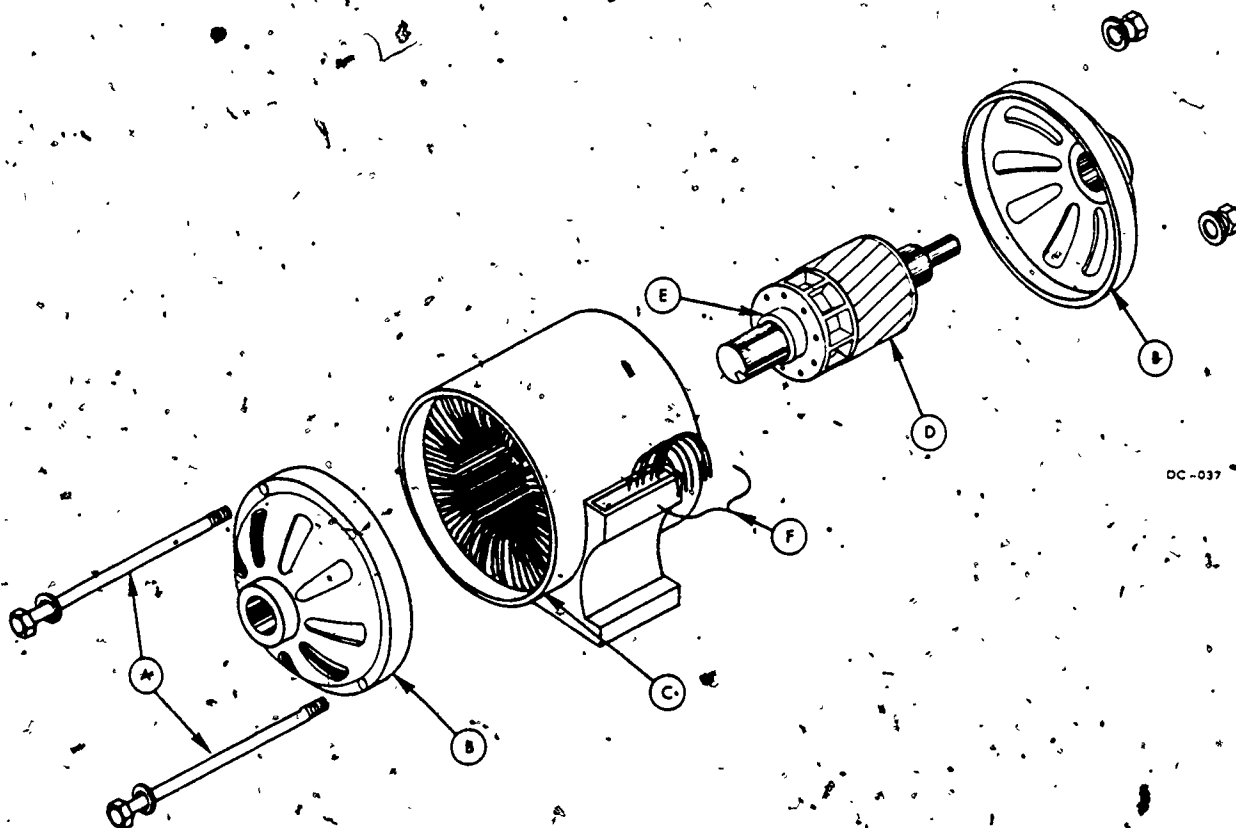

Figure 1. Three-Phase Motor
1. Figure 1 is a picture of a three-phase motor. Identify these parts by writing the name of each part in the space provided.